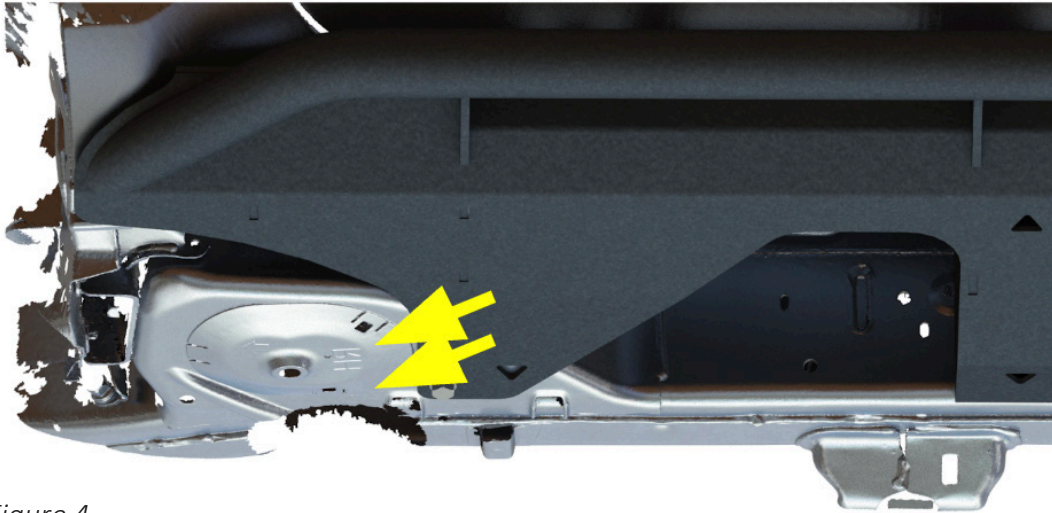

Figure 4
5. With assistance, hold the driver side slider up to the truck and install the FRONT M10 zinc hex head cap screws with flat washers into the body mount frame using a 17mm socket. Place a dab of 242 Loctite on the end of each bolt. Figure 4.